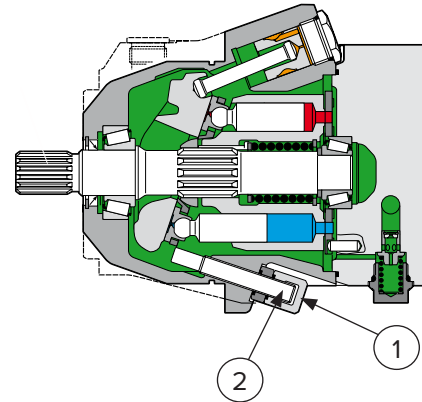

Figure 13
2. Remove the hex cap (Item 1) [Figures 13 and 14] on the bottom of the motor to access the adjustment screw (Item 2) [Figure 13].